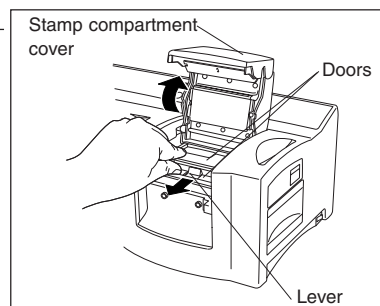

figure 1
- ❶ After the data is printed onto the draft sheet, which is then fed over the xenon lamp unit, the message "INSTALL STAMP !" appears in the LCD of the SC-2000USB.
- ❷ Lift open the stamp compartment cover, slowly pull the lever toward you to open the doors in the stamp compartment, and then check that the printed draft sheet has stopped over the xenon lamp unit (see figure 1).